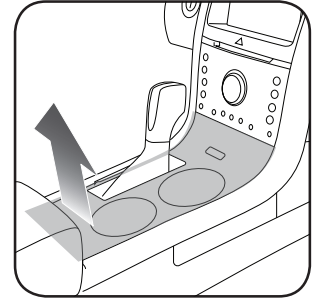

Fig. 1.2
2. Remove four (4) screw holding the shifter trim panel. Unclip and remove the shifter trim panel. (Fig. 1.2)